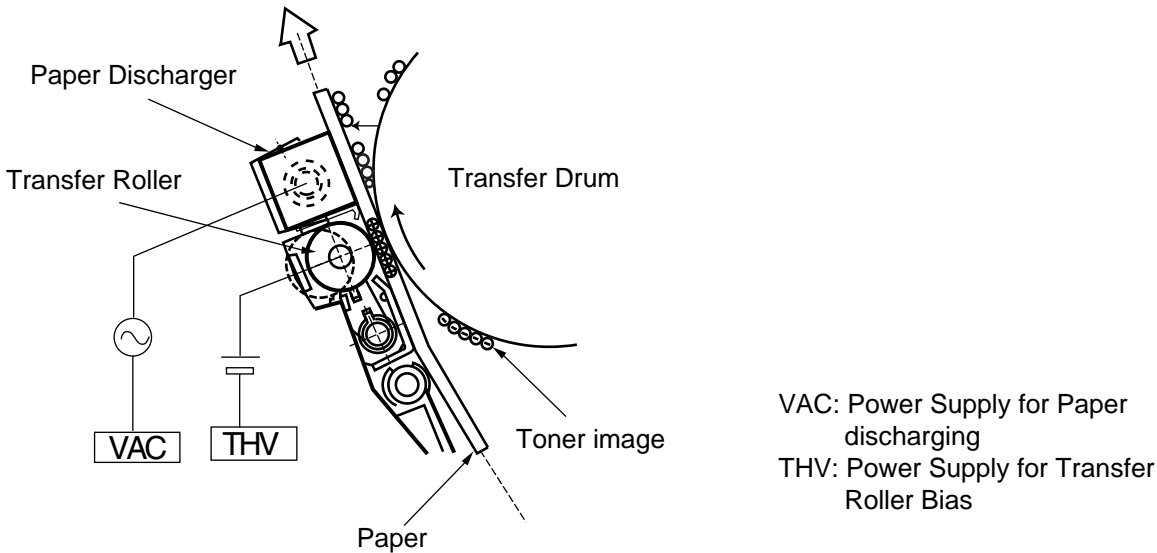

Fig.4-21
- (2) Second Transfer Process (Refer to Fig.4-21.)